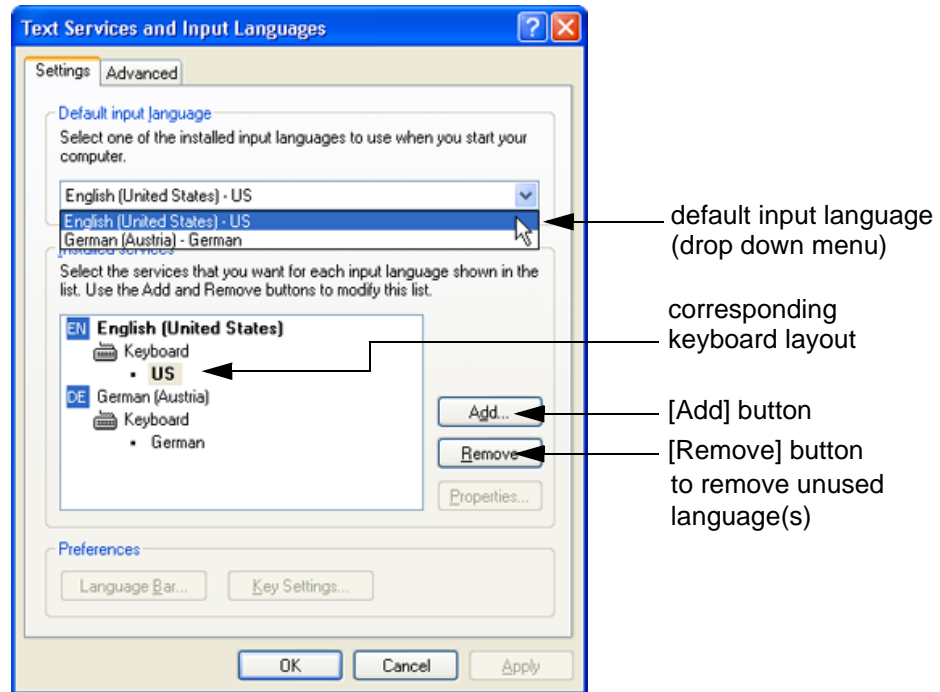

Figure 6-10 Default input language
- 7.) If not already done, select the default input language from the drop down menu (see: Figure 6-10). The corresponding keyboard layout is changed automatically.